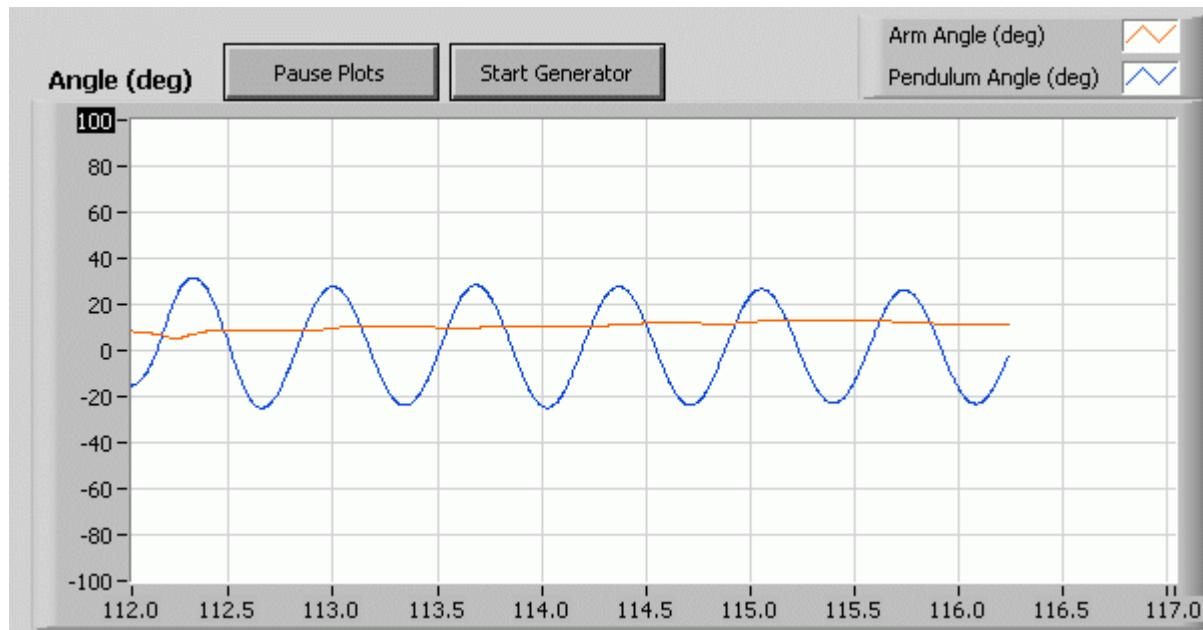

Figure 44: Changing scale of LabVIEW scope.
1. As illustrated in Figure 44, to decrease the positive range of the scope down to 40, double-click on '100' in the y -axis, type in '40', and press ENTER.